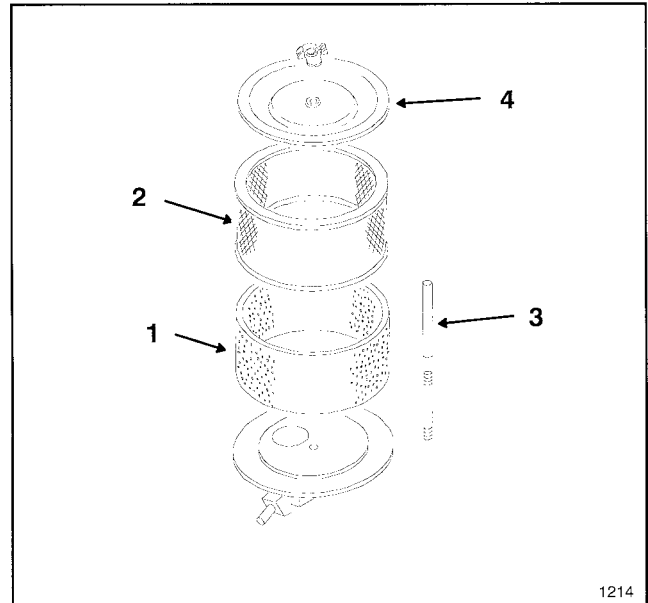

Figure 18
2. Carefully slide foam pre-cleaner off the paper element (Fig. 18).